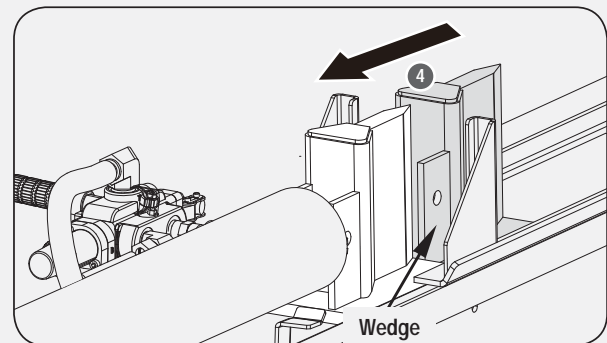

Figure 18b
2. Pull the wedge back. (See *Figure 18b.*)